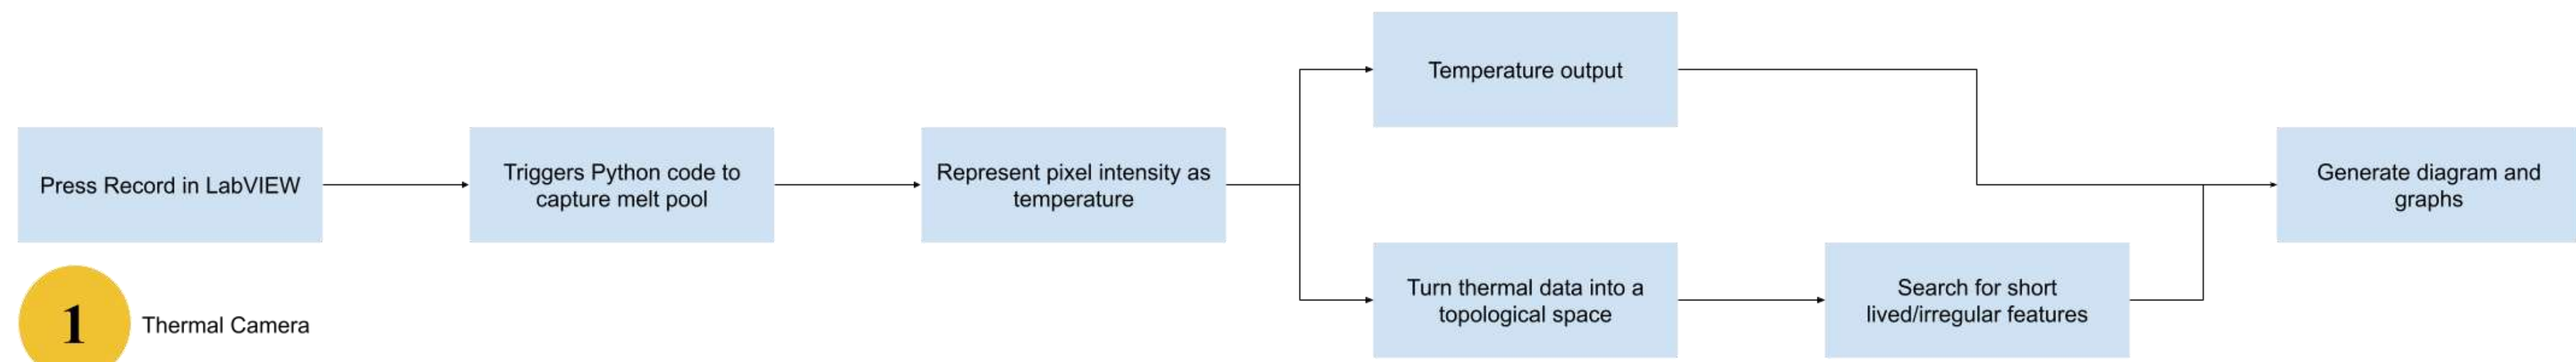

Fig 5. producing a thermal graph and diagram. Software implementation for data collection and
- Progress has been made on both the hardware and software implementation of this project. The hardware aspect has been manufactured, and some basic data collection has been done (Fig. 5).